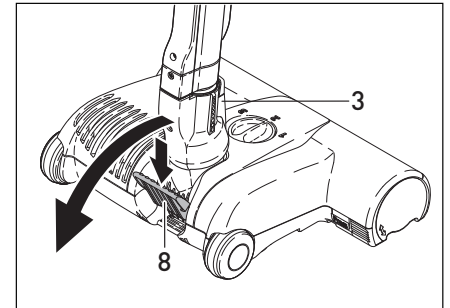

Figure 2
A. When the power nozzle is switched on with the swivel neck (#3, fig. 2) in the upright locked position, the brush roller will not spin. To release the power nozzle from the upright locked position, press down on the foot pedal (#8, fig. 2) and lower the swivel neck into the normal operating position. The brush roller will then start spinning and the on/off light on the power nozzle will illuminate in green*. The handle can be lowered to a horizontal position useful for vacuuming under beds.
By pushing the foot pedal (#8, figure 2) and lowering the swivel neck, you activate the power nozzle and the brush begins spinning. Failure to use the foot pedal will cause lasting damage to the machine. The electronic brush control constantly monitors the status of the brush, communicating the status through the lights on top.